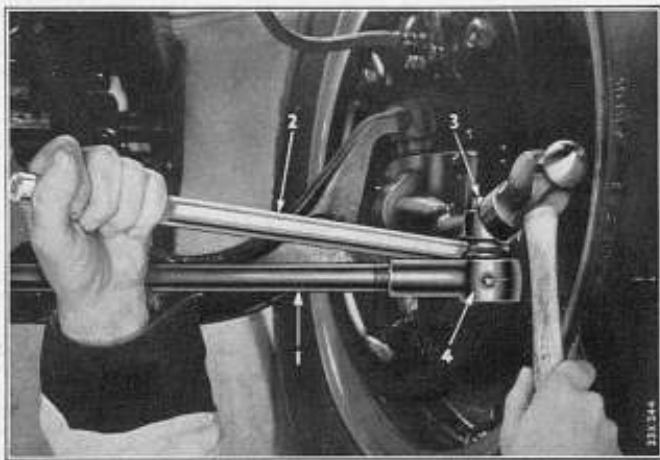

Fig. 9—Removing Tie Rod Ends from Steering Arms
2. Insert a pry bar between the tie rod and the steering knuckle arm and jar the tie rod ball loose by driving on the rear end of the steering knuckle arm (Fig. 9). Tie rod balls are not removable from the tie rod ends; if replacement of either is necessary, the complete tie rod end and ball assembly should be replaced.